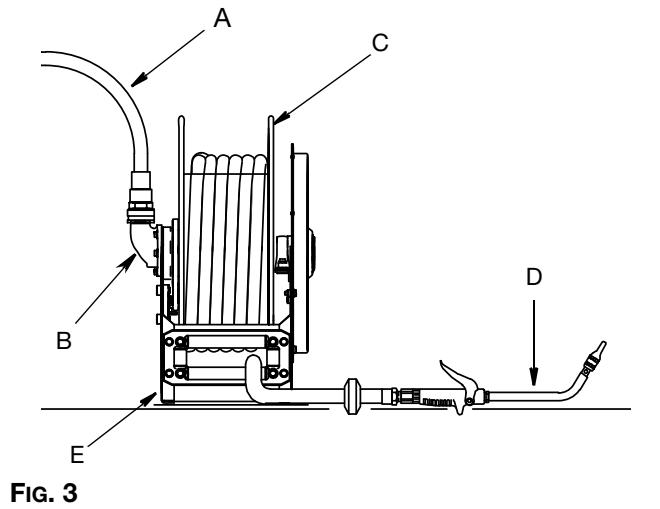
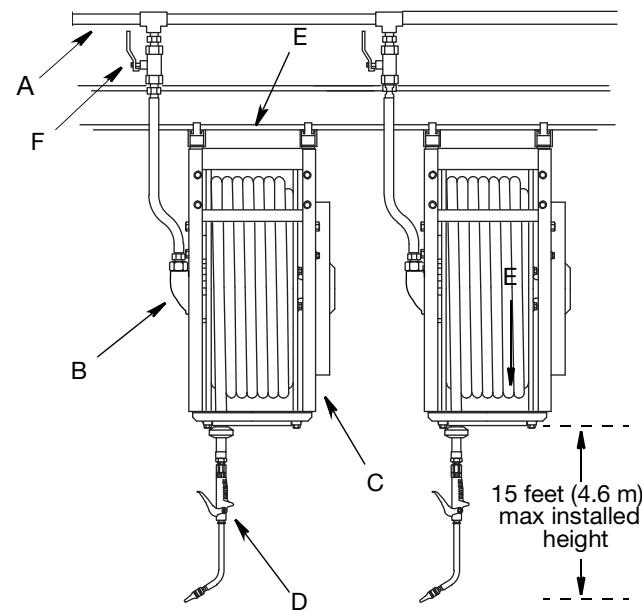

FIG. 3
FIG. 4
- XD40 - 15 ft (4.6 m), (See FIG. 4, page 11)
The installations shown in FIG. 3 and FIG. 4 are only a guide. Contact your Graco distributor for assistance in designing a system to suit your needs.